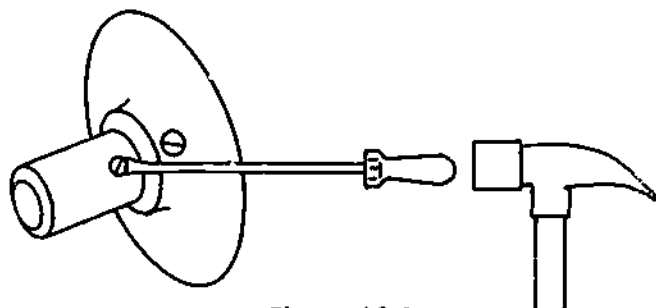

Figure 10-9
2. Using a screwdriver and a hammer, gently tap on the filler valve screw (Figure 10-9) to remove the valve from the casting.